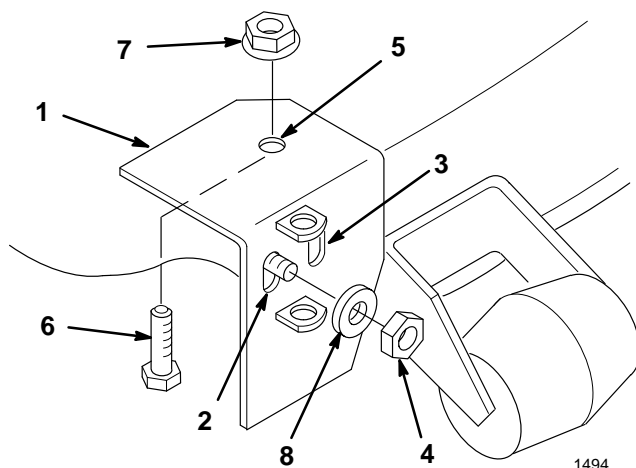

Figure 8
1. Select the proper hole in the pivot support (42" deck–outside, 48" deck–inside) and slide it over the threaded stud welded to front of mower near discharge opening (Fig. 8).
2. Align pivot support parallel with front curved edge and tight against top of mower (Fig. 8). Clamp in this position.
3. Drill a 11/32" diameter hole in the top of the mower deck using the pivot support as a guide. Secure the pivot support to the mower with a 5/16 x 3/4" (19 mm) bolt, through from the underside of the mower, and a flange nut (Fig. 8).